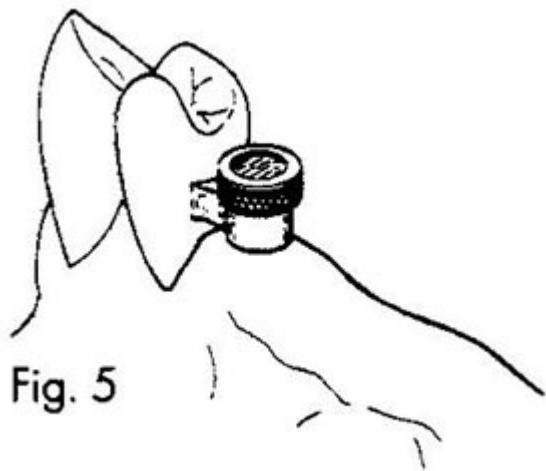

Fig. 5
1. After the cement has set completely, snap a ZAAG Cap Male into each cemented female (**FIG 5**). The black centering sleeve keeps the male centered during the pickup, and is removed after the processing to allow a resilient hinging attachment function.